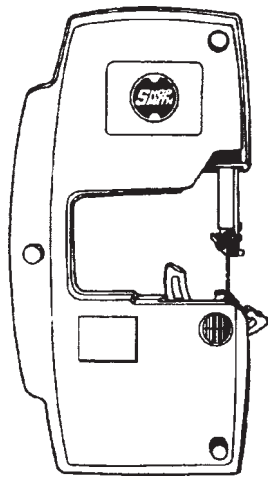
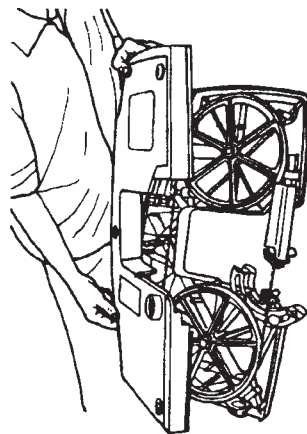

Fig. 2
Fig. 3
2. Your Bandsaw should look like Fig. 2 (with the table not yet installed). Remove the three screws and washers then the cover (6), as shown in Fig. 3.